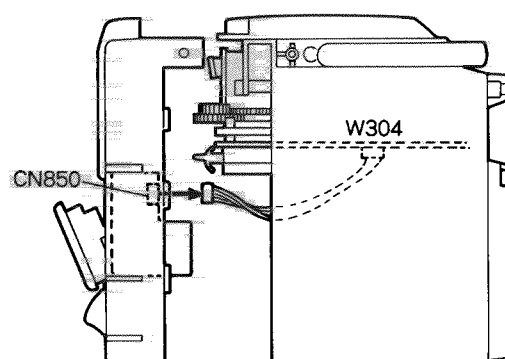

Fig. 7 - 4
■ How to remove the cassette mechanism ass'y and main P.C. board ass'y (Fig. 7 - 6)
1. Remove the two screws ⑤ retaining the cassette mechanism ass'y.